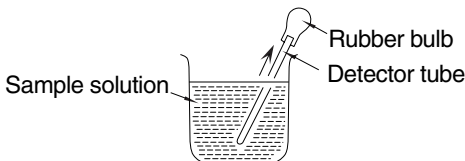

FIG. 2.26 DIRECT SAMPLING METHOD
- (3) Direct sampling method (see FIG. 2.26) : Sample solution is drawn into the tube end by a rubber bulb (an extra option). The concentration of the ion is read by the direct reading method or the concentration chart method as in case of the gas detector tubes.